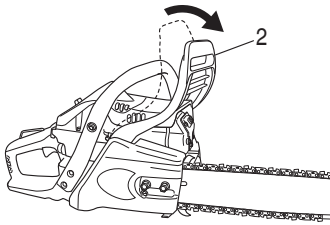

Fig. 12
1. Push the front hand guard (2) so that the chain brake is engaged. (Fig. 12)